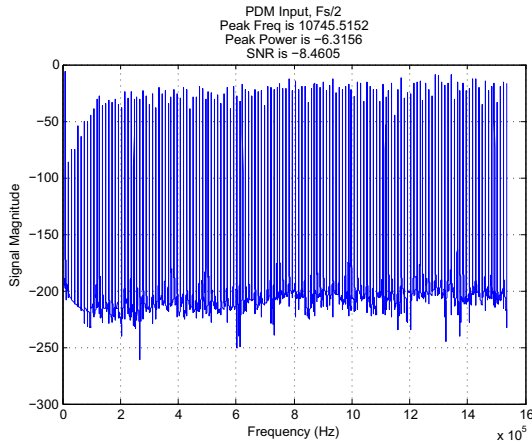
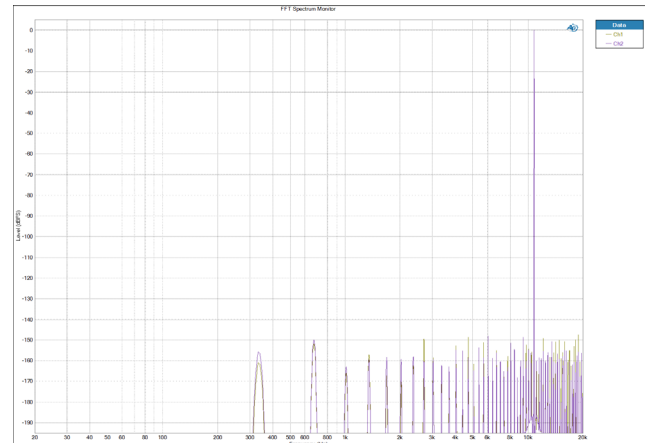
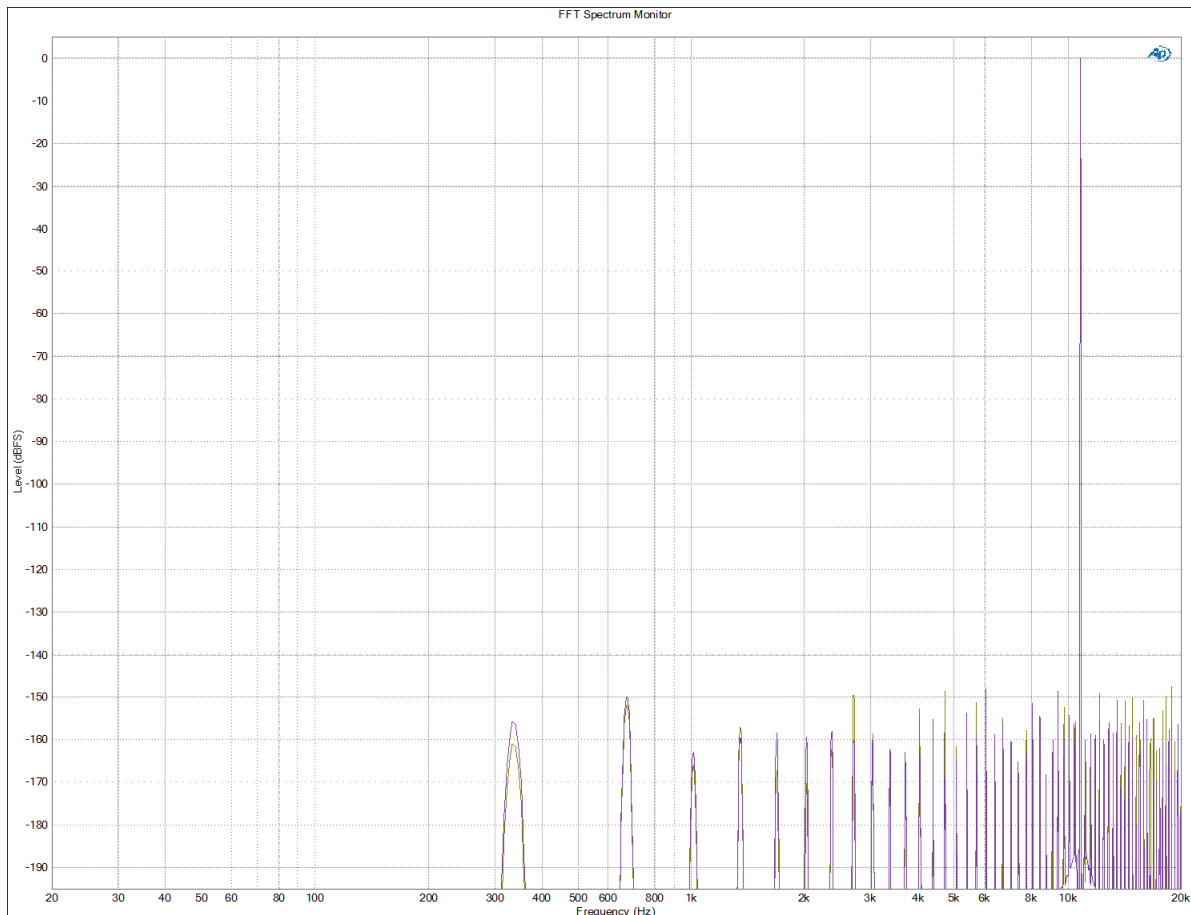

Figure 17. 286-bit repeating PDM Source carrying a 10.745kHz sine wave
Figure 18. FFT, Fs = 48kHz, 0dBFS, 10.745kHz sine wave, Converted Linear PCM I2S Output from TSDP18xx
Figure 19. Zoom In of Figure 18
DVDD_IO = 1.8 V, T_A = 25°C, PDM BCLK Output = 3.072 MHz, LRCLK Input = 48 kHz, TDM format, OS Rate = 64x unless otherwise noted. The PDM audio stream used in the below table was generated by the APx525 PDM Module, with a 5th order noise shaper. Measurements are without A-Weighting or AES-17 filter unless otherwise noted. Due to the fact that the SNR / DNR / THD+N Level (20Hz ~ 20kHz) performance of the TSDP18xx greatly exceeds that of the APx525 PDM Module as well as any available DMIC available on the market today. Please refer to the SNR / DNR / THD+N Level footnote and corresponding performance plots Figure 17, Figure 18 and Figure 19 as to how this measurement was captured.
1. The > 142dB SNR / DNR / THD+N Level performance number was generated using a generated PDM data source. Please refer to Figure 17, Figure 18, and Figure 19 and the associated Figure text descriptions to learn more about how the PDM data source was generated and also how these measurements were taken.
DVDD_IO = 1.8 V, T_A = 25°C, PDM BCLK Output = 3.072 MHz, LRCLK Input = 48 kHz, I2S format, OS Rate = 64x. The PDM signal was generated from a 286-bit repeating digital signal, with a 10.745kHz fundamental. It was generated by taking a 5th order modulator module of a 3072 / 286kHz input. This 286-bit repeating generated output file was then used as the signal source (as shown in Figure 17) sent from the APx525 into the TSDP18xx, with the Linear PCM I2S formatted output sent back into the APx525, with an AES-17 20kHz brick wall filter applied, but no A-Weighting.